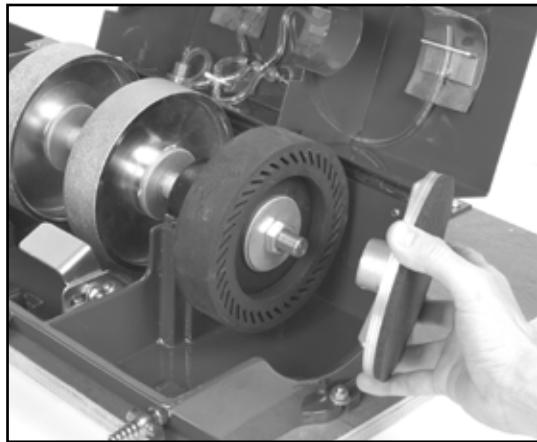

Fig 46 - Remove polishing hub from shaft
7. Hold the expandable drum in one hand to keep the shaft assembly stationary and with the other hand remove the polishing hub by rotating it counter-clockwise (fig 46).